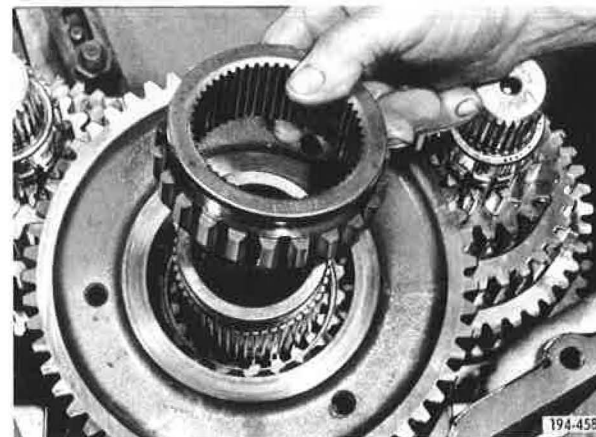

Figure 5-81. Removing First Speed Sliding Clutch
15. Remove mainshaft sliding clutches and gears with thrust washers from case. See Figures 5-81 and 5-82.